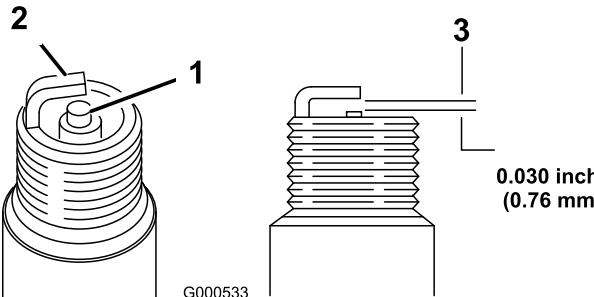

Figure 27
5. Set the gap on the plug to 0.76 mm (0.030 inch) as shown in Figure 27.